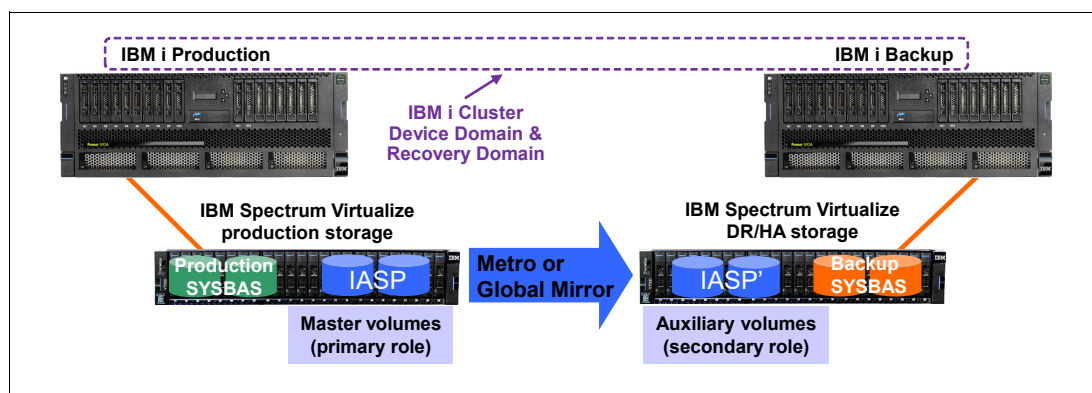

Figure A-12 IBM i IASP replication with IBM Spectrum Virtualize
IASP IASP-based replication for IBM i is used for a high availability (HA) solution where an IBM i production and an IBM i backup node are configured in an IBM i cluster and the IASP that is replicated by IBM Spectrum Virtualize remote replication is switchable between the two cluster nodes, as shown in Figure A-12.